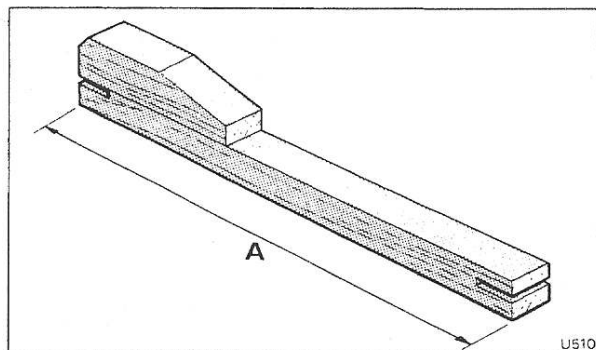

Fig. S96 Wooden pegs
15. Using wooden pegs similar to the one shown in Figure S96, place them into position in the front windscreen and rear window apertures.